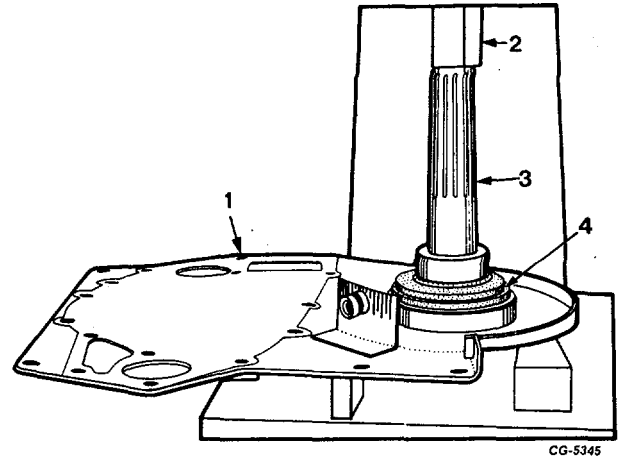

Fig. 52 Front Cover Oil Seal Removal with Cover Removed Using SE-1905 Handle and 3-1/4" O.D. Disc
58. Press front cover oil seal from front cover using a 3-1/4" O.D. flat disc from the SE-1905 Set, Figure 52.